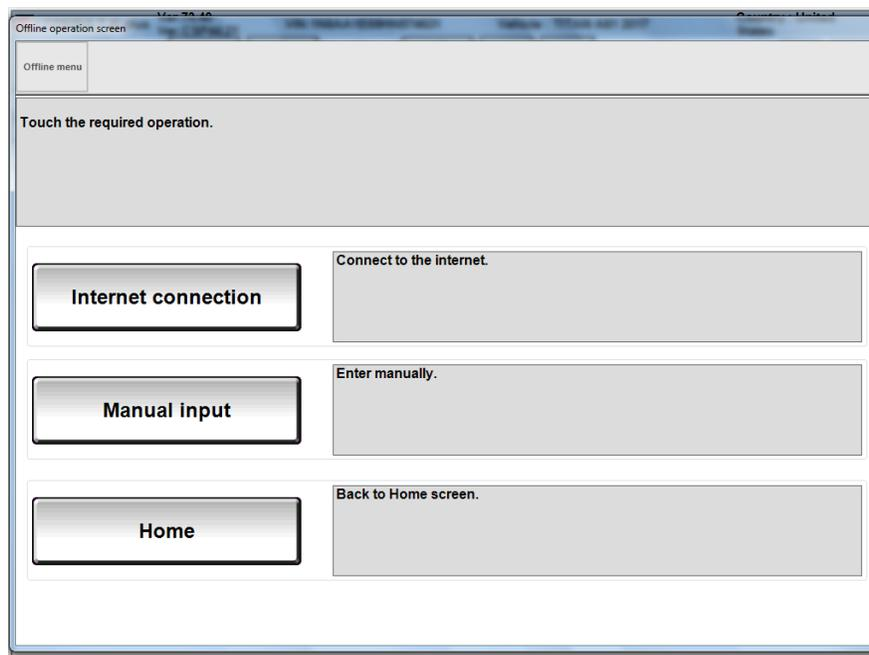

Figure 21A
- If the CONSULT PC is not connected to the Internet, the screen in Figure 21A will display.